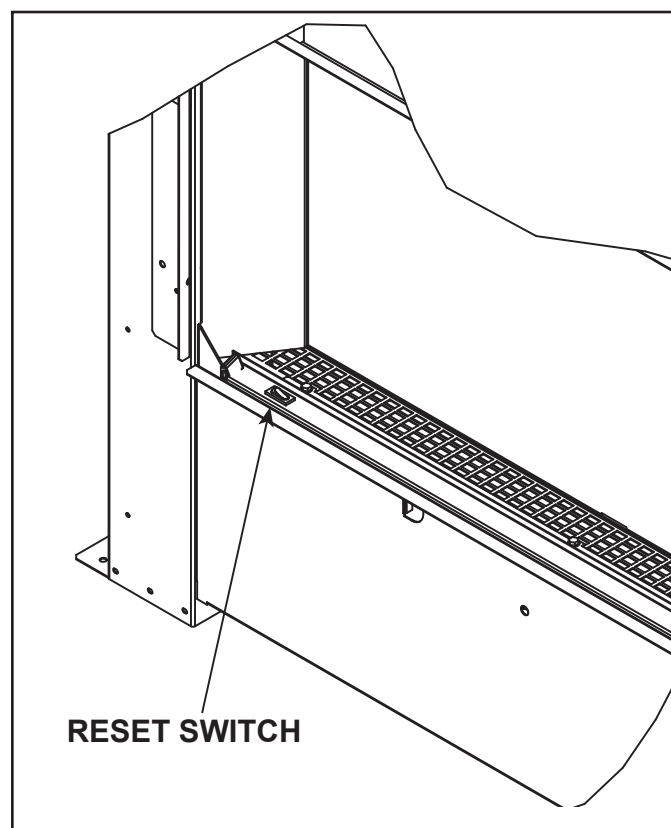

Figure 8.2 Reset Switch Location - Bottom Left
- Press the RESET switch located on the left side of the transition media tray. Use a small, flat object to access the switch. When the appliance has started, flip the reset switch back to its original position. See Figure 8.2.